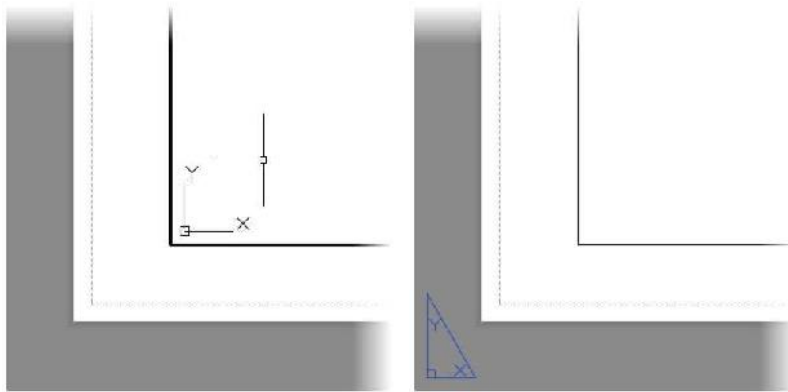

FIGURE 14.11: The layout in model space (left) and in paper space (right)
- If the UCS icon consists of two lines inside the solid border (see the left of Figure 14.11), you are working in model space.
- If the UCS icon is shaped like a triangle and located in a portion of the drawing area (see the right of Figure 14.11), you are working in paper space.